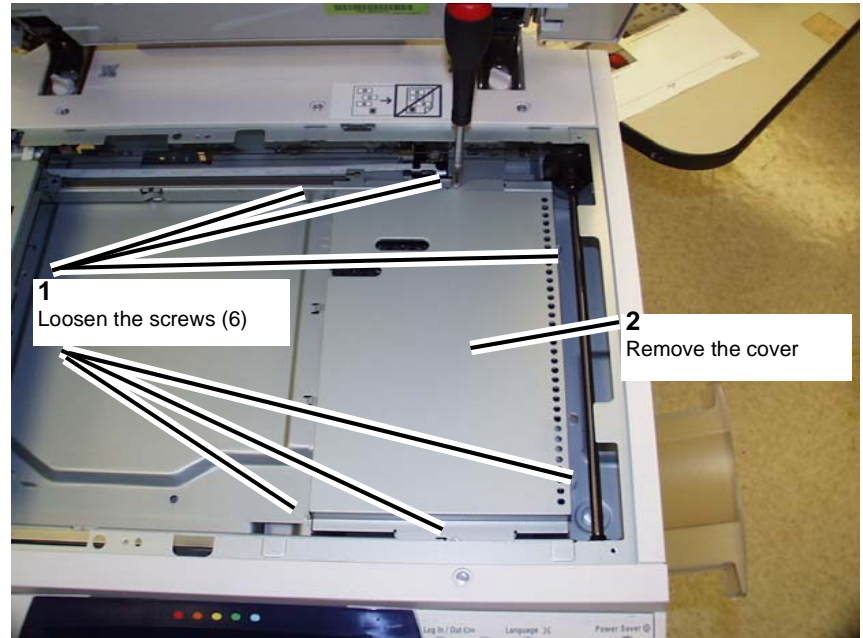

Figure 1 Removing Lens Cover
2. Remove the Lens Cover. (Figure 1)